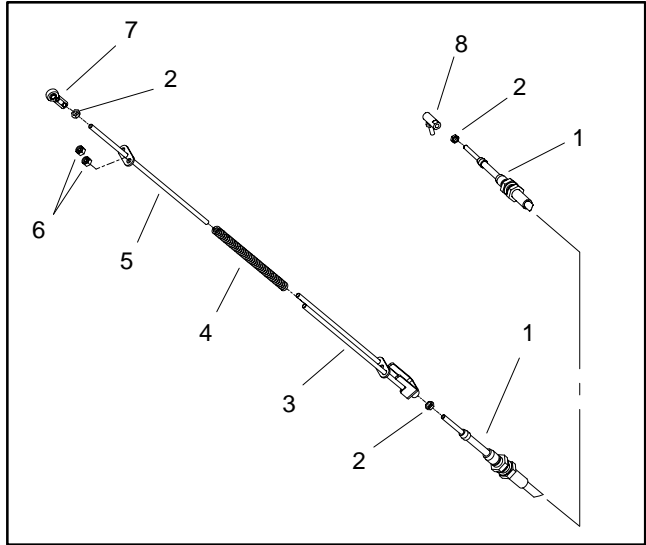

Figure 9
3. Disassemble traction control cable using Figure 9 as a guide.
1. Assemble traction control cable using Figure 9 as a guide. Tighten lock nuts (item 6) so that compression spring (item 4) has a length from 6.750" to 6.880" (17.2 to 17.4 cm).